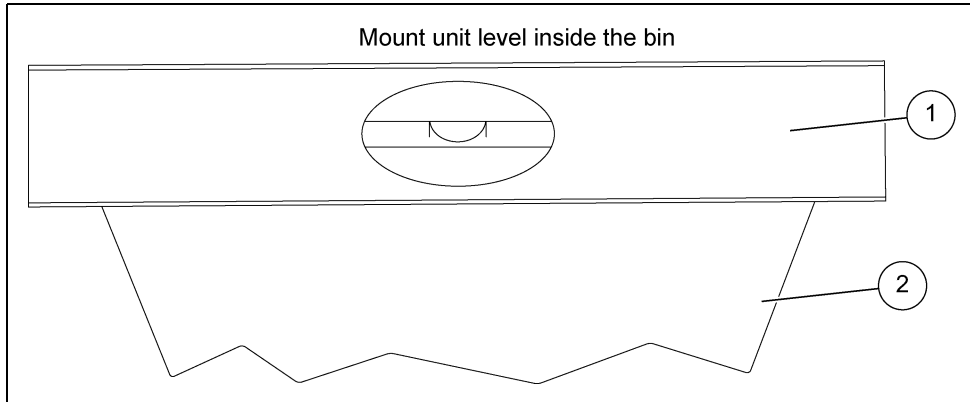

Figure 4A Mount Spreader and Check with Level
4. Once unit is installed, use a carpenter's level (1) across the top of the spreader cone to confirm it is level in all directions. (See Figure 4A.)